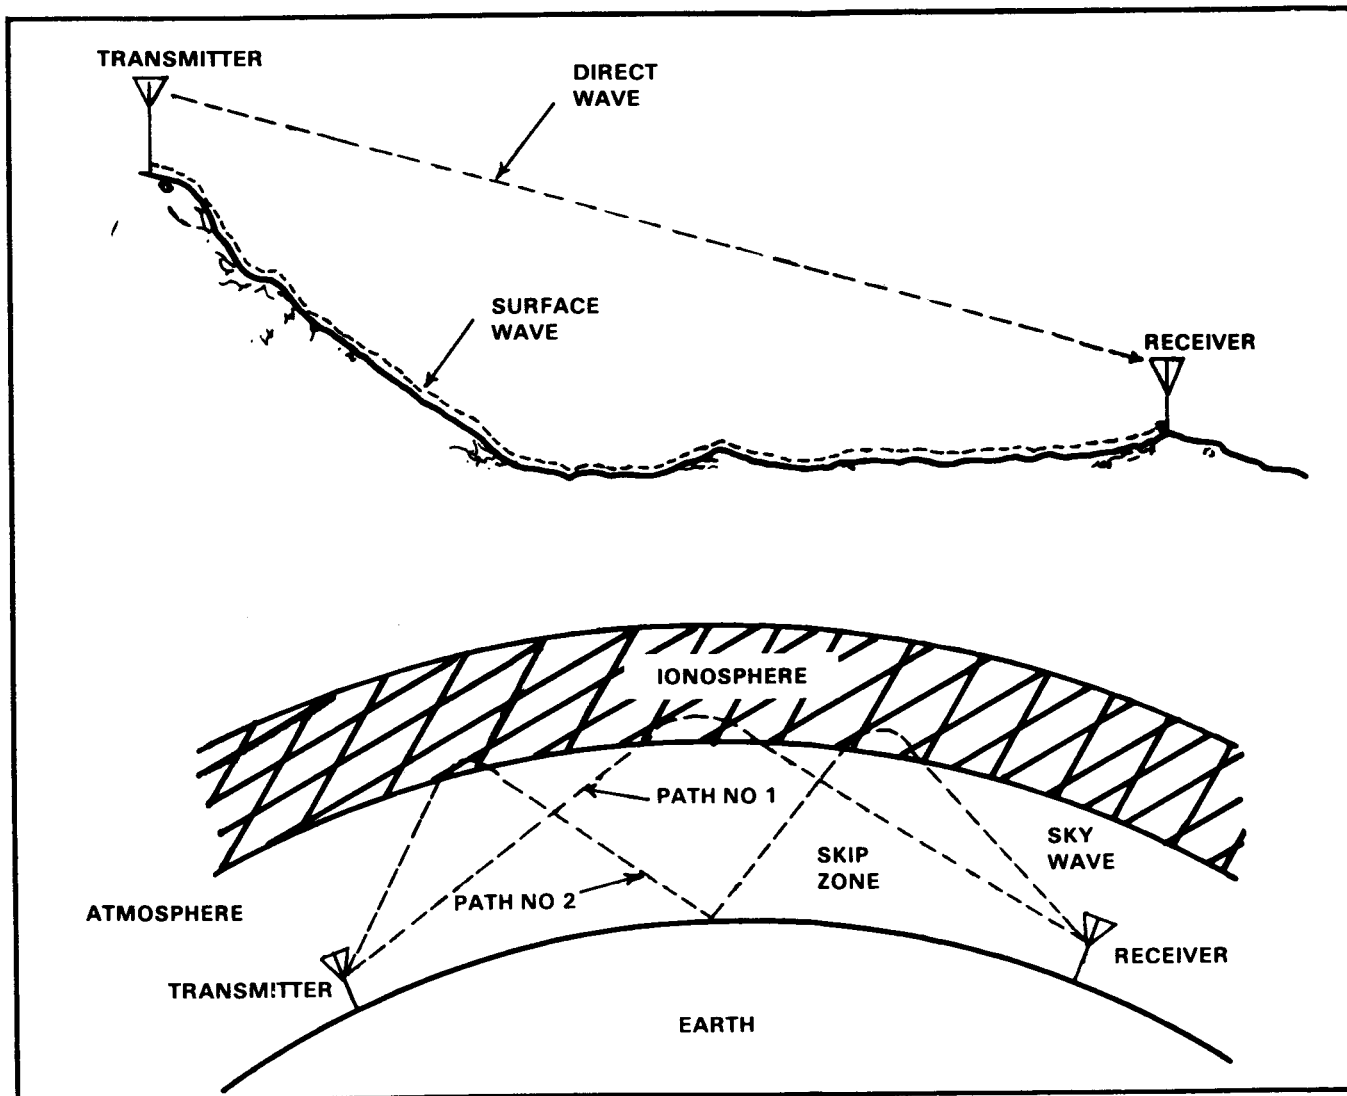

Figure 3-1. Sky-wave and ground-wave propagation.
b. If the tactical situation permits, a simple half-wave dipole antenna (doublet) or the NVIS antenna is used to extend the range of the radio by using the skip phenomenon. Skip means the radio waves are bounced off the ionosphere and back to earth giving coverage of 300 miles or more. Figure 3-1 shows the ground wave and sky wave using the skip phenomenon. The NVIS can be used at frequencies above 12 MHz but automatic tuning of the radio (AN/PRC-104A and/or AN/GRC-213) may not be possible at all frequencies.